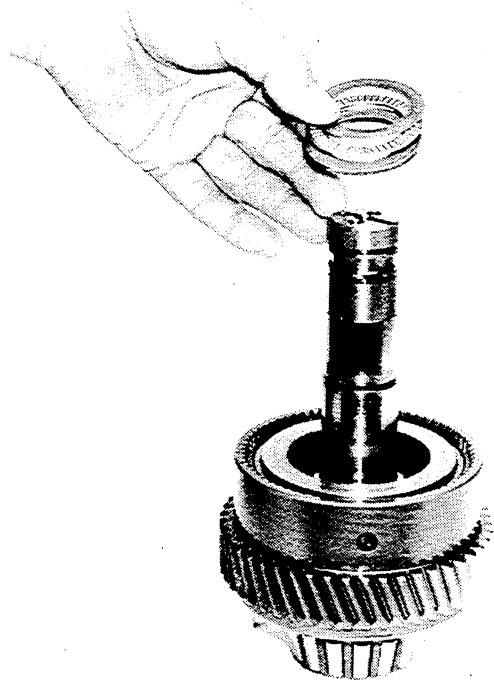

Figure 8-3. *Removing or Installing the Clutch Hub and Pinion Assembly.*
5. Remove the clutch hub and pinion assembly. See Figure 8-3.
9. Install clutch hub and pinion assembly (Figure 12-3, 15). See Figure 8-3.